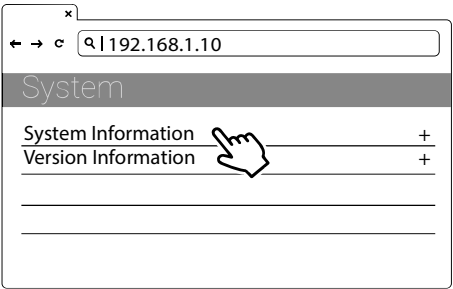

Figure 4-12. Date and Time Information
- 3) Select: SET | Network | System Information | System DateTime. Refer to the following figure 4-12.